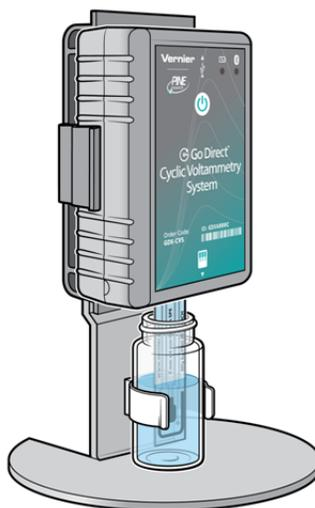

Figure 2
- Fill the scintillation vial about halfway full (~10 mL) with your 0.1 M potassium nitrate solution. Insert the scintillation vial into the clip on the stand. Carefully guide the Cyclic Voltammetry System with SPE attached downward into the vial and snap the instrument into place, as shown in Figure 2. **Caution:** *Treat all laboratory chemicals with caution. Prudent laboratory practices should be observed.*